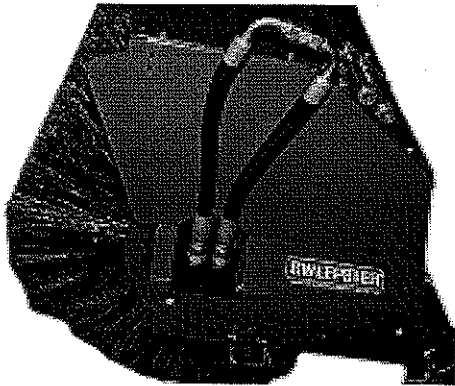

figure 41
- c. On one motor, connect hoses removed from the tubes (figure 41).